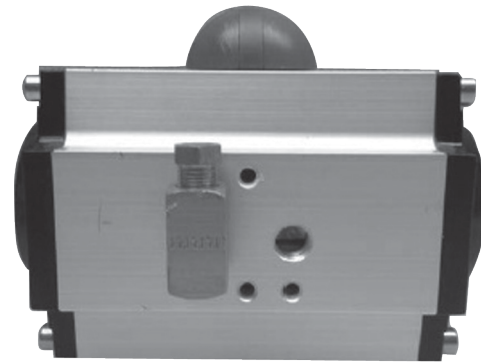

Figure 4. Air Fittings and Fusible Link Installation
9. Place the brass NPT Tee into the actuator inlet port, see Figure 4.
10. Place the brass NPT Tee into the actuator inlet port, see Figure 4.
8. Place the brass NPT Tee into the actuator inlet port, see Figure 4.